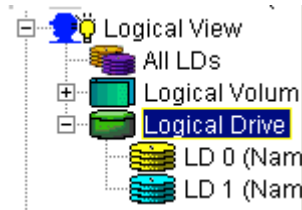

Figure 8-32: List of LDs
Step 1. Select the “**Logical Drive**” icon from the Logical View navigation panel shown in *Figure 8-1*. As shown in *Figure 8-32*, all the LDs that have been created will appear below the “Logical Drive” icon.
Step 2. From the list shown in *Figure 8-32*, select the LD that you wish to delete. Once this LD has been selected a “*View and Edit LD Partition*” table will appear in the content panel. At the top of this window the two tabs (“*Partition*” and “*Operation*”) shown in *Figure 8-33*, will appear. Select the “*Operation*” tab.